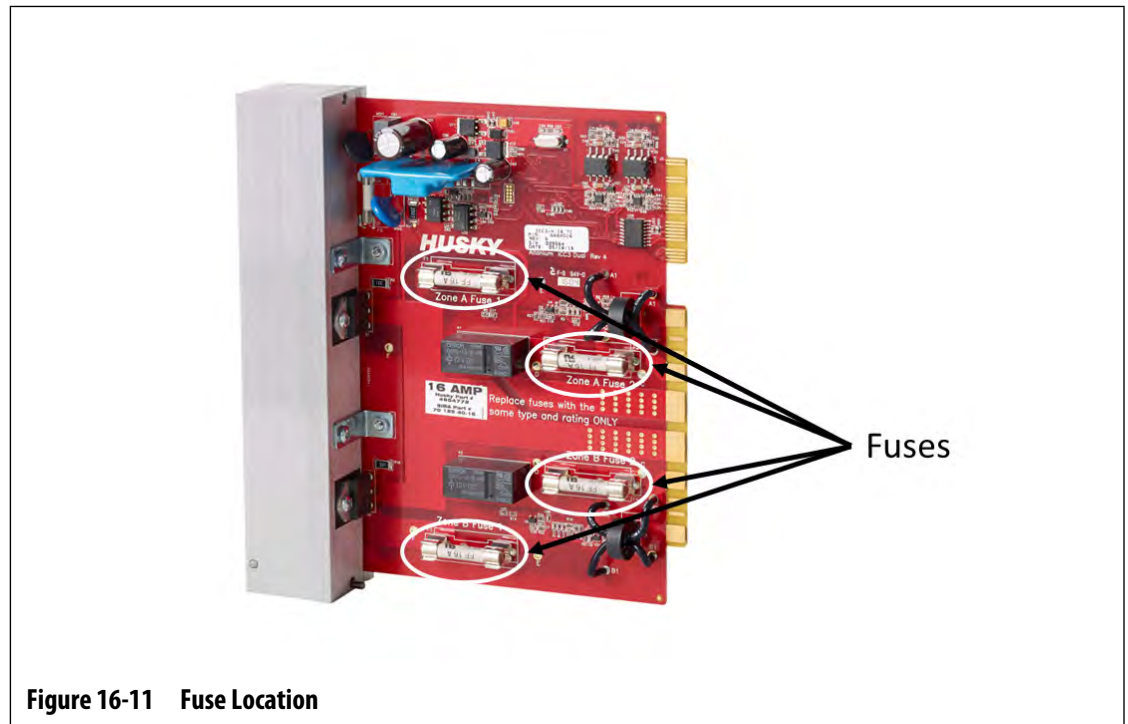

Figure 16-11 Fuse Location
7. Remove and replace the faulty fuse with one of identical type and rating. Refer to Figure 16-11.